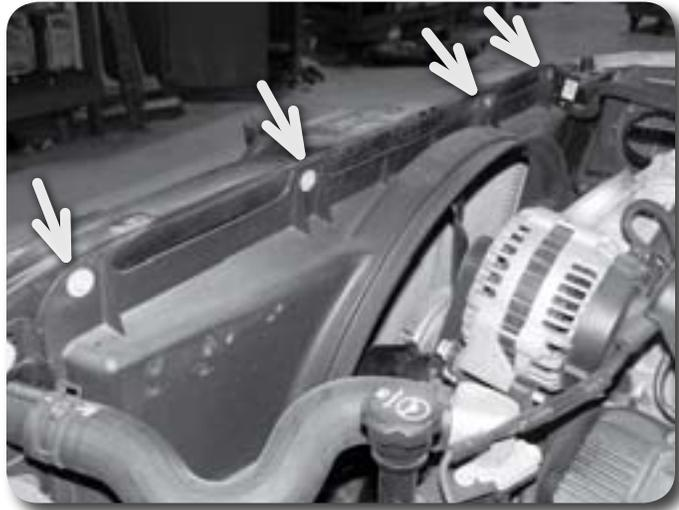

Figure 5
7. Remove the bolts (2 or 4, depending on vehicle) mounting the top of the fan shroud to the core support **Figure 5**. Save bolts.